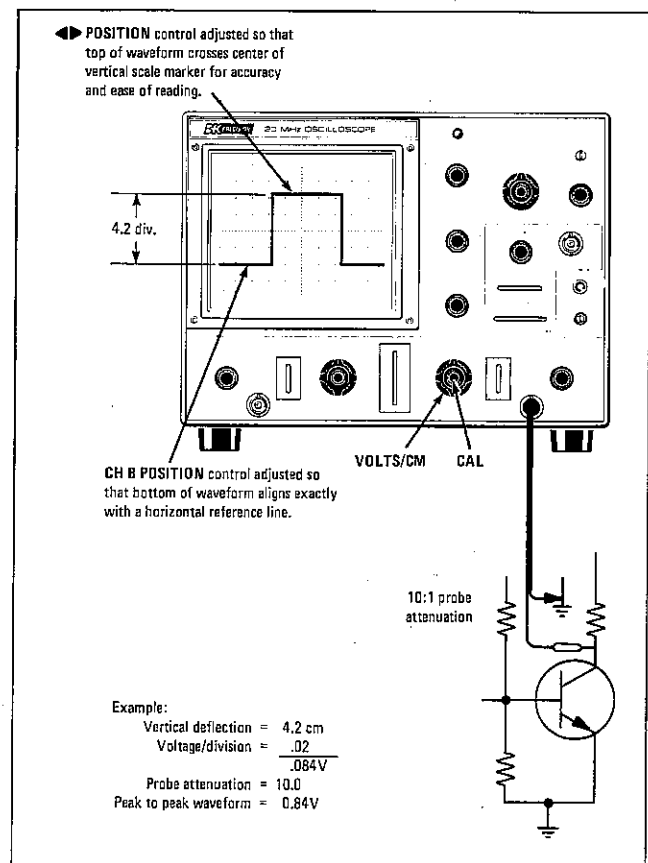

Fig. 5. Typical voltage measurement.
CALIBRATED VOLTAGE MEASUREMENT (See Fig. 5)
2. Be sure the CH B vertical VARIABLE control (22) is set fully clockwise to the CAL position.
3. Set CH B VOLTS/CM switch (21) for the maximum vertical deflection possible without exceeding the limits of the vertical scale.
4. Read the amount of vertical deflection (in cm) from the scale. The CH B POSITION control (18) may be readjusted to shift the reference point for easier scale reading if desired. When measuring a DC voltage, adjust the CH B POSITION control (18) to a convenient reference with the CH B AC-GND-DC switch (20) in the GND position, then note the amount the trace is deflected when the switch is placed in the DC position. The trace deflects upward for a positive voltage input and downward for a negative voltage input.
5. Calculate the voltage reading as follows: Multiply the vertical deflection (in cm) by the VOLTS/CM control (21) setting (see example Fig. 5). Remember that the voltage reading displayed on the oscilloscope is only 1/10th the actual voltage being measured when the probe is set for 10:1 attenuation. The actual voltage is displayed when the probe is set for direct measurement.
6. Calibration accuracy of this oscilloscope may be occasionally checked by observing the 0.1-volt peak-to-peak square wave signal available at the CAL 0.1 V p-p terminal (10). This calibration source should